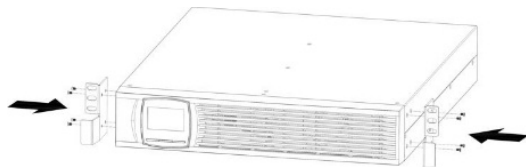

Figure 9: Securing the mounting bracket
4. Align the mounting bracket (L = left and R = right) with the screw holes on either side of the UPS system and the battery packs and affix it using the M4 x 8 countersunk screws provided (see Figure 9).